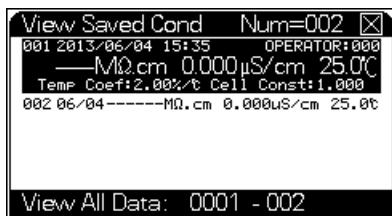

Figure 25 View saved data
- 4 The display is shown in Figure 25. The upper area displays the current viewing mode and actual storage amount. Each page can display up to 8 saved data. The display format varies with different viewing modes. The data displayed includes time and operator No.